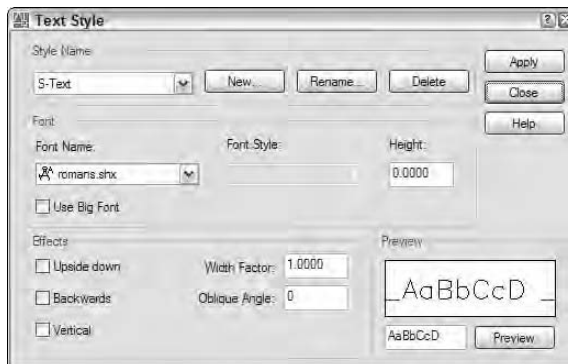

Figure 10-1:
The Text Style dialog box appears, as shown in Figure 10-1.
7. Set the remaining text style settings as shown in Figure 10-1: Height = 0.0, Width Factor = 1.0, Oblique Angle = 0, and all four check boxes unchecked.